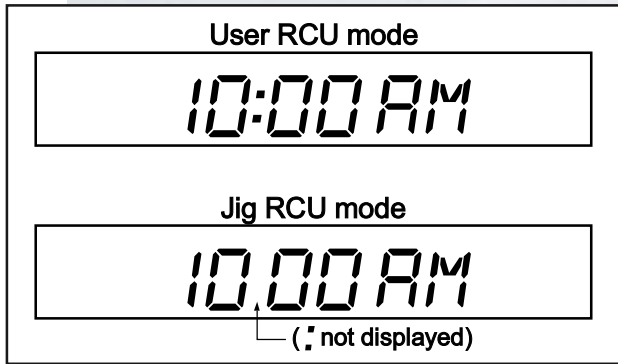

Fig.2-3a User/Jig RCU mode
- (1) Turn on the power.
- (2) Press the following remote keys continuously within 2 seconds "SET UP" → "2" → "8" → "ENTER". When the VCR is set to the Jig RCU mode, the symbols (": :") in the time display of the FDP are turned off. (Refer to Fig.2-3a)